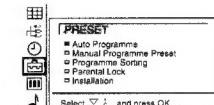

Fig. 3
- Select the symbol for »Preset« with $\Delta+$ or $\nabla-$ and press OK. The PRESET menu appears. (See Fig. 3.)